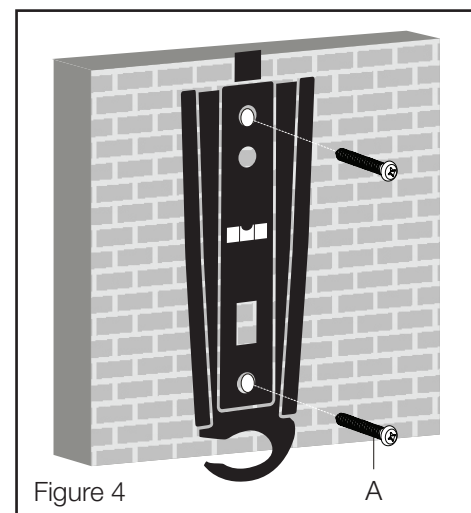

Figure 4
4. Insert lag bolts (A) through the 2 holes on the Wall Plate and into the concrete anchors (B) in the wall (see Figure 4).